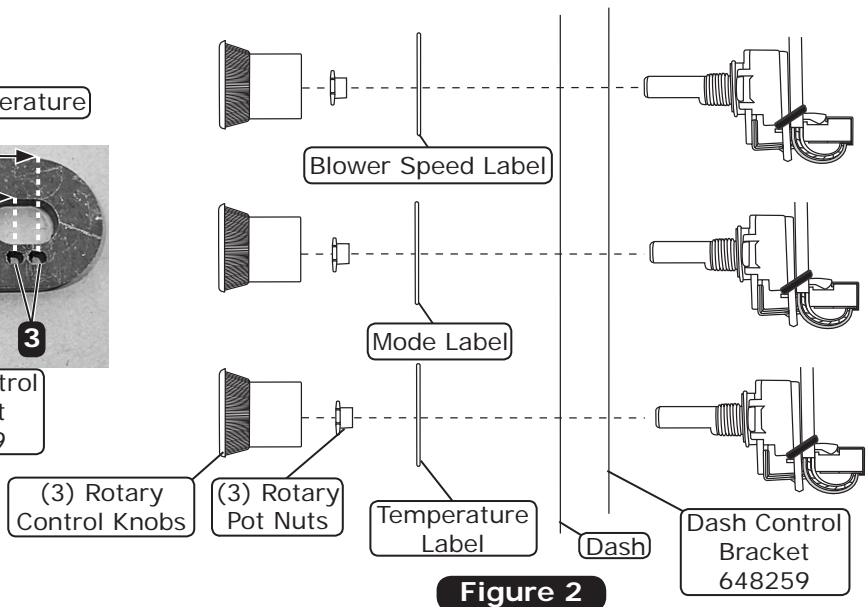

Figure 2
7. Insert the (3) rotary pots into the dash control bracket holes in the order shown in Photo 28, below. Be sure the lock tab on each rotary pot is seated in the appropriate notch on the bracket (See Photo 27, Page 13, and Photo 28, below). **NOTE: The outer dash control bracket holes are slotted to account for variances among dash hole locations by allowing (2) different mounting positions for the outer controls. Measure the distance between the centers of the outer dash holes to determine the appropriate dash control bracket mounting position (See Photo 28, below).**
8. While holding the (3) rotary pots in position, place the dash control bracket behind the dash, and insert the rotary pots into the (3) OEM holes on the dash. From the front, install a rotary pot nut onto each rotary pot to secure the control panel assembly as shown in Figure 2, below. **NOTE: Be sure each rotary pot is seated correctly with the lock tab inside the appropriate notch on the bracket. Level and center the controls, and tighten all (3) rotary pot nuts (See Photo 29, below).**
9. Install the (3) rotary control knobs by pushing them onto the rotary pot shafts (See Photos 29 & 30, below).